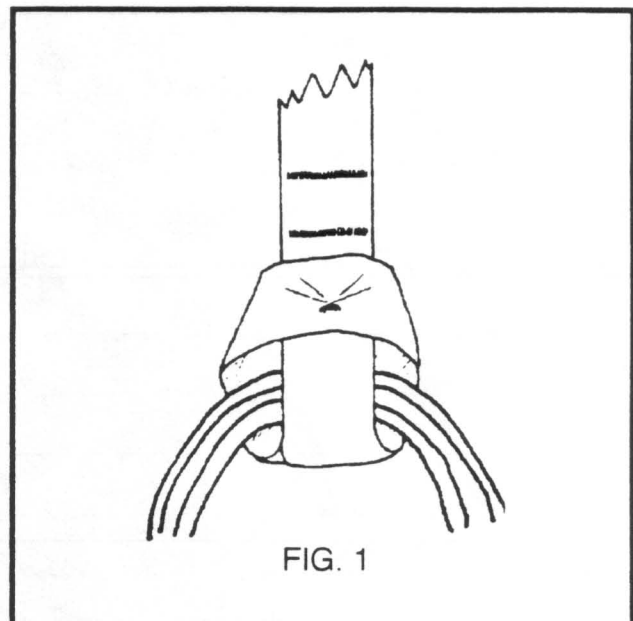

FIG. 1
- 2) Attach the bridle to the apex of the reserve canopy. The smaller loop of the bridle should be used at the apex, and the loop should be tacked securely with enough slack so that the loop will not bind the apex lines. The apex lines must be able to move freely through the bridle attachment (FIG. 1). The large loop of the bridle must then be attached to the pilot chute. (Only the JAVELIN reserve pilot chute may be used with the JAVELIN harness/container system. Do not substitute any other pilot chute.)